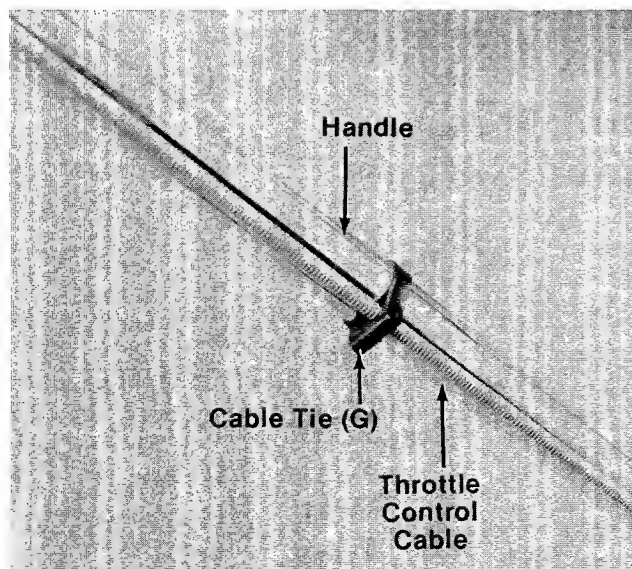

FIGURE 6.
6. Secure throttle control cable to handle with cable ties (G) provided. See figure 6.